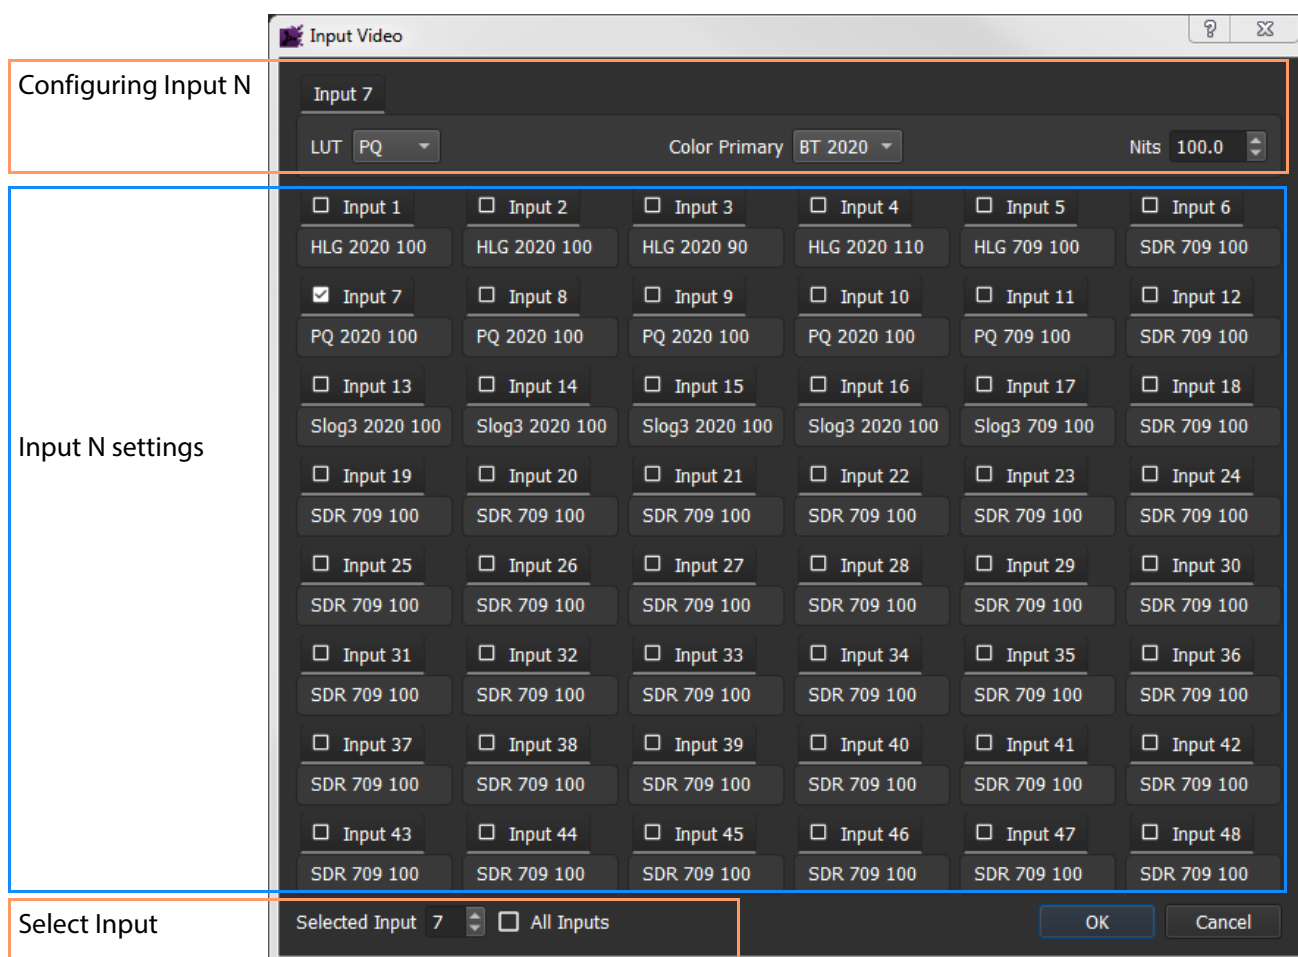

Fig. 4-2: Input Video Dialog ('Multiviewer > Input Video' in Orbit main menu)
The video input HDR settings are found in the **Input Video** dialog (**Multiviewer > Input Video** in the main menu), shown in Figure 4-2. Controls in the dialog are described in Table 4-1.
The **Nits** control in the **Input Video** dialog, Figure 4-2 on page 43, sets how much of the extra dynamic range of an HDR input signal is used when it is converted to SDR internally for the MV-8 Series Multiviewer.
and the **Input Video** dialog is shown. See Figure 4-2 on page 43.
- clicking on the input in the 'Input N Settings' area of the dialog, see Figure 4-2 on page 43; or